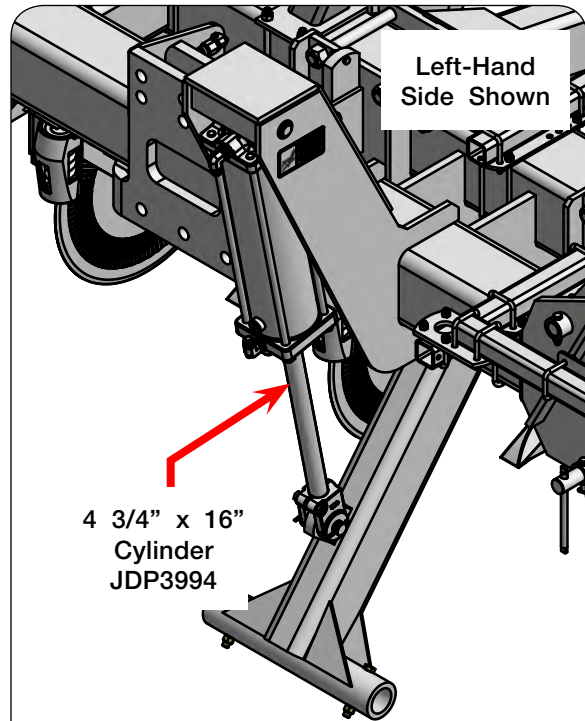

FIG. 2-7
1. Using a safe lifting device rated at a minimum of 100 lbs., lift and attach the 4 3/4" x 16" cylinder with pins and cotter pins (JDP3994) to the left-hand axle weldment as shown in FIG. 2-7.